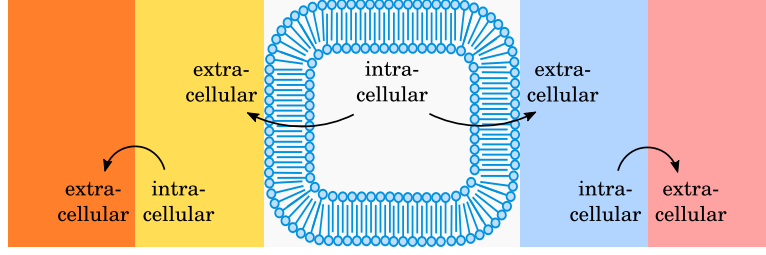

Figure 6: Relative extracellular and intracellular environments in a complex model with five compartments.
- Identify the intracellular and extracellular environments. As a standard, inside the cell is assumed to be the intracellular ground and moving away from the cell, the compartment closer to the cell consider as the intracellular relative to the further one (Figure 6).